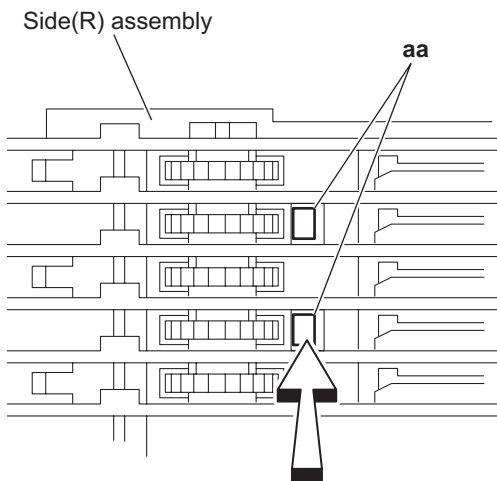

Fig.23
3.3.12 Removing the side (R) assembly (See Fig.23 to 27)
- (1) From the inside of the side (R) assembly, release the two tabs **aa** of the gear cover and remove the gear cover outward. (See Figs.23 and 24.)